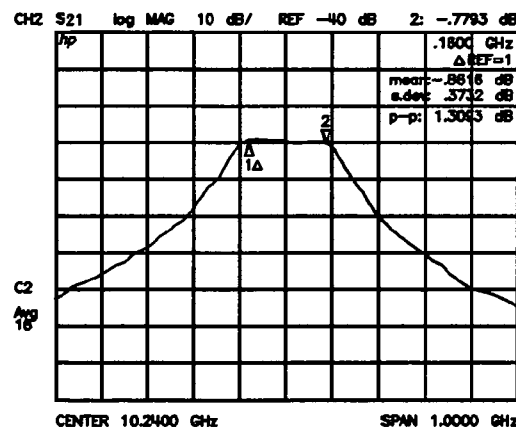

Figure 7-12. Measurement Using Marker Statistics
**STATS on OFF** (MEASTAT) calculates and displays the mean, standard deviation, and peak-to-peak values of the section of the displayed trace between the active marker and the delta reference marker. If there is no delta reference, the statistics are calculated for the entire trace. A convenient use of this feature is to find the peak-to-peak value of passband ripple without searching separately for the maximum and minimum values. The *User's Guide* provides an example of such a measurement, illustrated here in Figure 7-12.